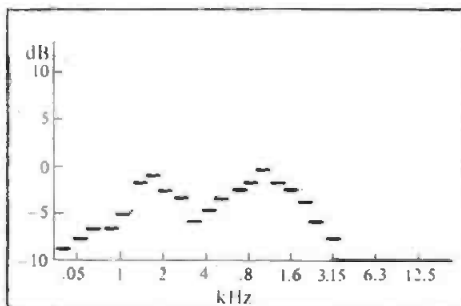

Figure 1. Typical two-way system's acoustical response, before equalization.
• The move to upgrade theater systems through equalization came about largely through the efforts of Dolby Laboratories. During the early seventies, when Dolby noise reduction was being introduced into the post-production phases of filmmaking, it was found necessary to equalize both the systems used in dubbing theaters and in theaters across the country if the benefits of noise reduction were to be fully appreciated. What was found in the field typically looked like FIGURE 1. In many cases, the theater systems were under-powered, and attempts to even-out their response called for larger power amplifiers.